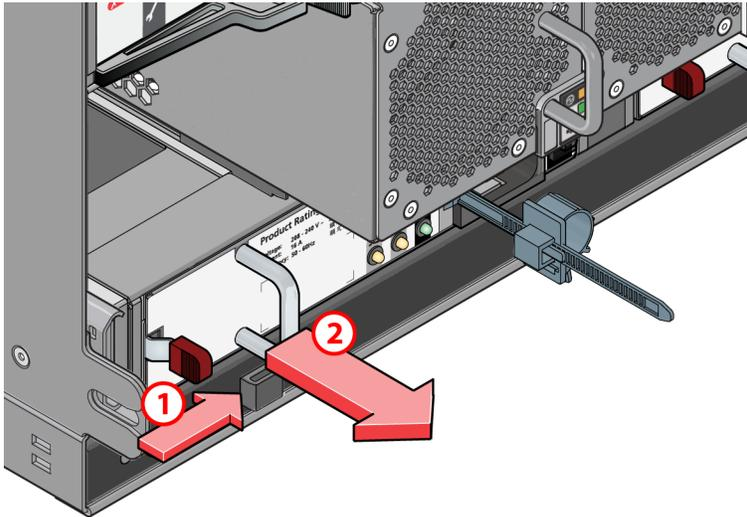
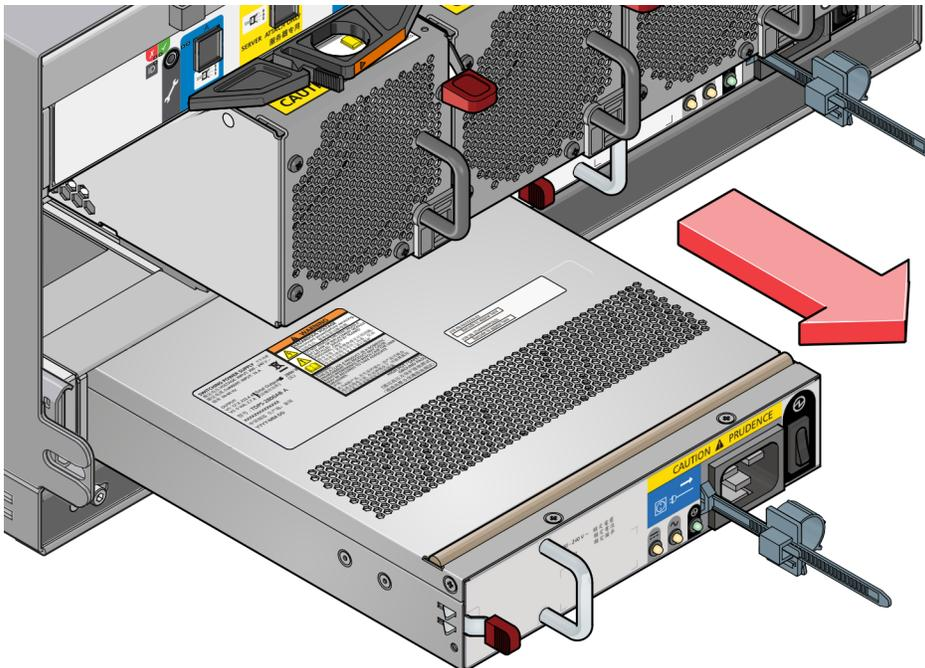

Figure 98. Removing a PSU Module (1)
Figure 99. Removing a PSU Module (2)
2. As shown in Figure 98 “Removing a PSU Module \(1\)” on page 91 and Figure 99 “Removing a PSU Module \(2\)” on page 91, push the red release latch to the right and hold it (1), then pull out the module by its handle (2).